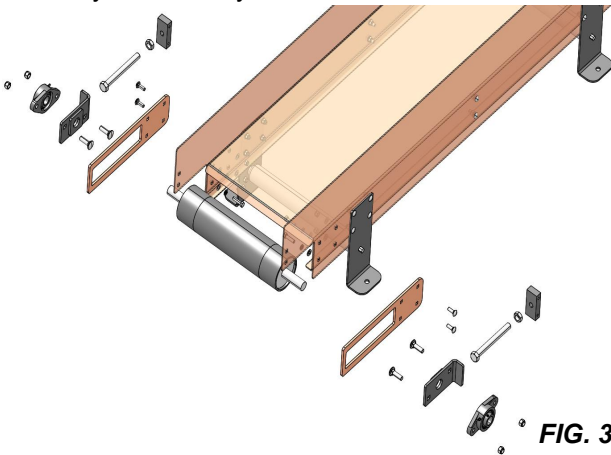

FIG. 3-16
3. Install a roller and all the hardware to the end of the conveyor assembly as shown in FIG. 3-16.